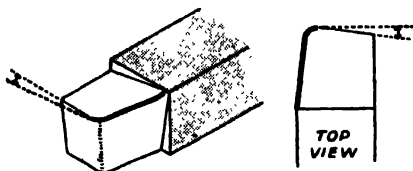

Fig. 11-16. End cutting-edge angle. (The Shell Oil Company)
**End Cutting-edge Angle.** This term indicates that the plane which forms the end of a tool has been ground back at an angle sloping from the nose to the side of the shank, establishing the angle of the end of the tool in relation to the shank (Fig. 11-16).